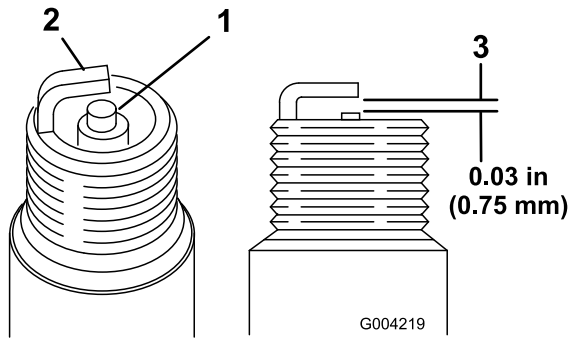

Figure 49
1. Look at the center of both spark plugs (Figure 49). If you see light brown or gray on the insulator, the engine is operating properly. A black coating on the insulator usually means the air cleaner is dirty.
2. Check the gap between the center and side electrodes (Figure 49).
3. Bend the side electrode (Figure 49) if the gap is not correct.